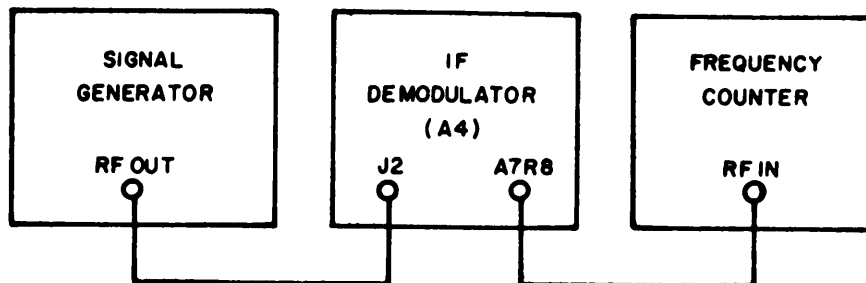

Figure 4-8. Test Setup, Product Detector (A4A7) Alignment
- (1) Construct the circuit as shown in Figure 4-8.